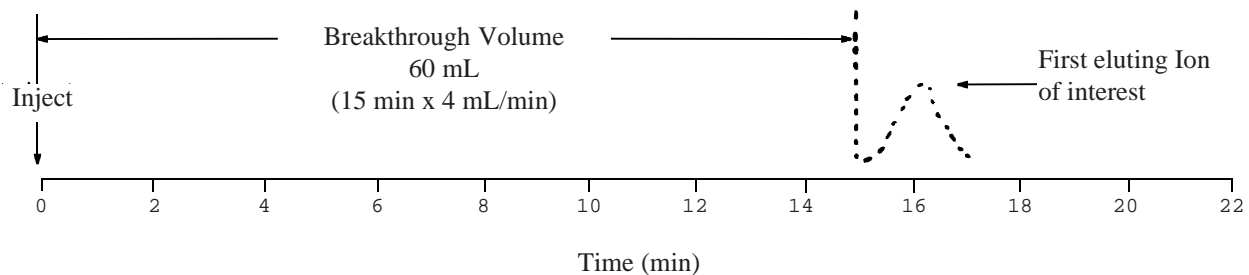

Figure 4
- C. Set up the Ion Chromatograph, as shown in Figure 4, "Determination of the Breakthrough Volume," and equilibrate the concentrator column with eluent at the concentration flow rate needed to achieve a stable baseline.
- E. Record the resulting chromatogram and calculate the breakthrough volume, as shown in Figure 4.